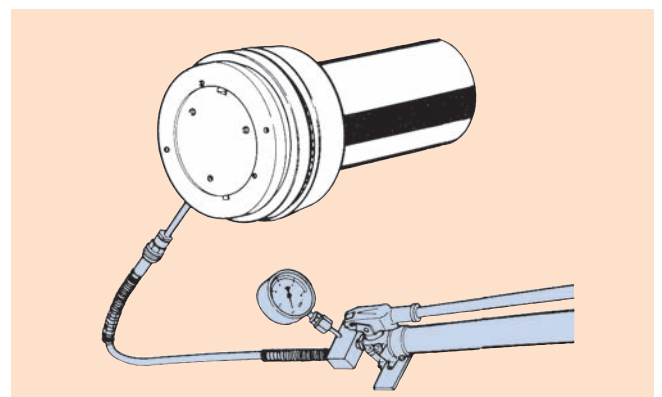

Fig. 34
- Install a hydraulic nut to the thread of the withdrawal sleeve, and remove the withdrawal sleeve from the bearing using the hydraulic pump pressure (see Fig. 34). When doing so, install the bearing so that it makes contact with the plunger side of the hydraulic nut.